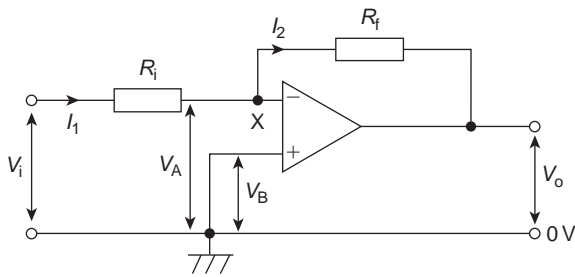
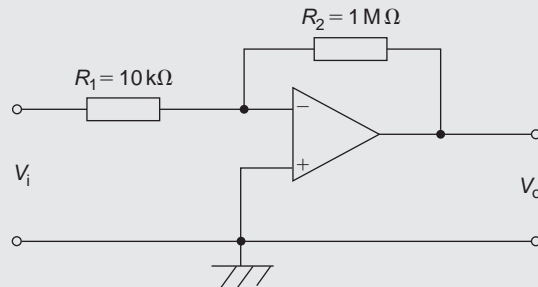

Figure 21.5
Figure 21.6
Operational amplifiers nearly always use **negative feedback**, obtained by feeding back some, or all, of the output to the inverting (–) input (as shown in Fig. 21.5 in the next section). The feedback produces an output voltage that opposes the one from which it is taken. This reduces the new output of the amplifier and the resulting closed-loop gain A is then less than the open-loop gain A_o . However, as a result, a wider range of voltages can be applied to the input for amplification. As long as $A_o \gg A$, negative feedback gives:
The basic circuit for an inverting amplifier is shown in Fig. 21.5 where the input voltage V_i (a.c. or d.c.) to be amplified is applied via resistor R_i to the inverting ($-$) terminal; the output voltage V_o is therefore in anti-phase with the input. The non-inverting ($+$) terminal is held at 0 V. Negative feedback is provided by the feedback resistor, R_f , feeding back a certain fraction of the output voltage to the inverting terminal.
- (ii) the inputs are both at the same potential if the op amp is not saturated, i.e. $V_A = V_B$ in Fig. 21.5.
In Fig. 21.5, $V_B = 0$, hence $V_A = 0$ and point X is called a **virtual earth**. Thus,
Problem 4. In the inverting amplifier of Fig. 21.5, $R_i = 1\text{k}\Omega$ and $R_f = 2\text{k}\Omega$. Determine the output voltage when the input voltage is: (a) +0.4 V, (b) -1.2 V
Problem 5. The op amp shown in Fig. 21.6 has an input bias current of 100 nA at 20°C. Calculate (a) the voltage gain and (b) the output offset voltage due to the input bias current. (c) How can the effect of input bias current be minimised?
Comparing Fig. 21.6 with Fig. 21.5 gives $R_i = 10\text{k}\Omega$ and $R_f = 1\text{M}\Omega$
- in Fig. 21.6.
With reference to Fig. 21.5, and from equation (5),
4. In the inverting amplifier of Fig. 21.5 (on page 422), $R_i = 1.5 \text{ k}\Omega$ and $R_f = 2.5 \text{ k}\Omega$. Determine the output voltage when the input voltage is: (a) +0.6 V, (b) -0.9 V.